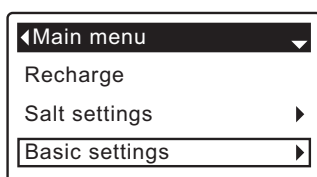

FIG. 43
1. From any of the rolling status screens, press the SELECT (O) button to display the **Main menu**.
2. Press the DOWN (▼) button to scroll through the menu options until **Basic settings** is highlighted (See Figure 43).